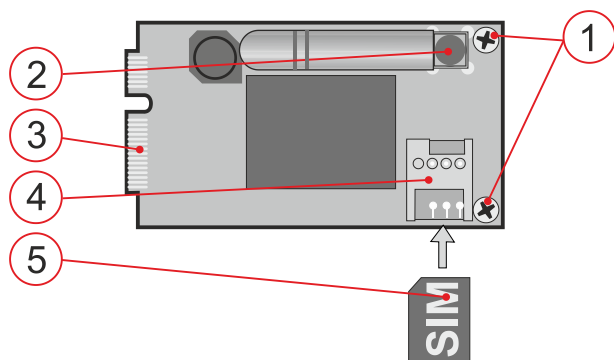

Fig. 1: The JA-194Y communicator
- Attach the GSM antenna** to the connector (2.) on the communicator module (included with the JA-194Y-LITE). When installing the antenna, follow the orientation shown in Fig. 1.